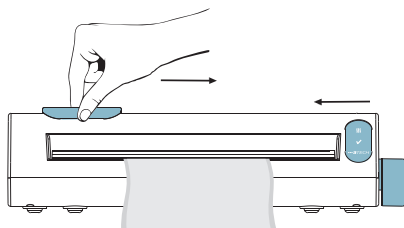

Fig. 3
- 4 Before lifting up the sealing handle, cut the package by sliding the blade holder from a side to another and taking it back to the initial position (Fig. 3).